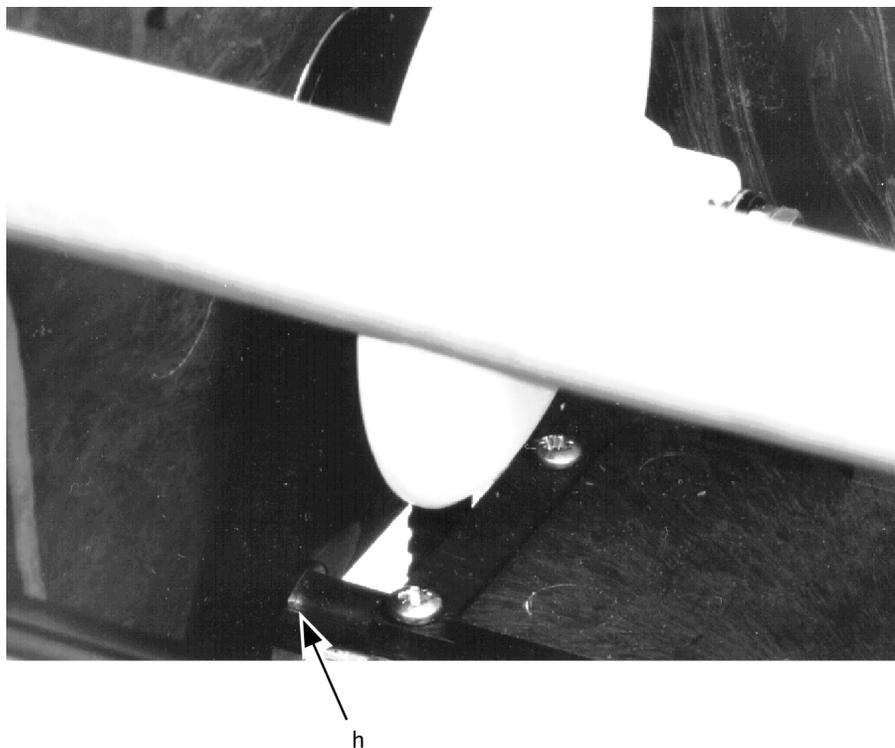

Figure 5.12.3c
- h Jockey-arm bush (figure 5.12.3c)